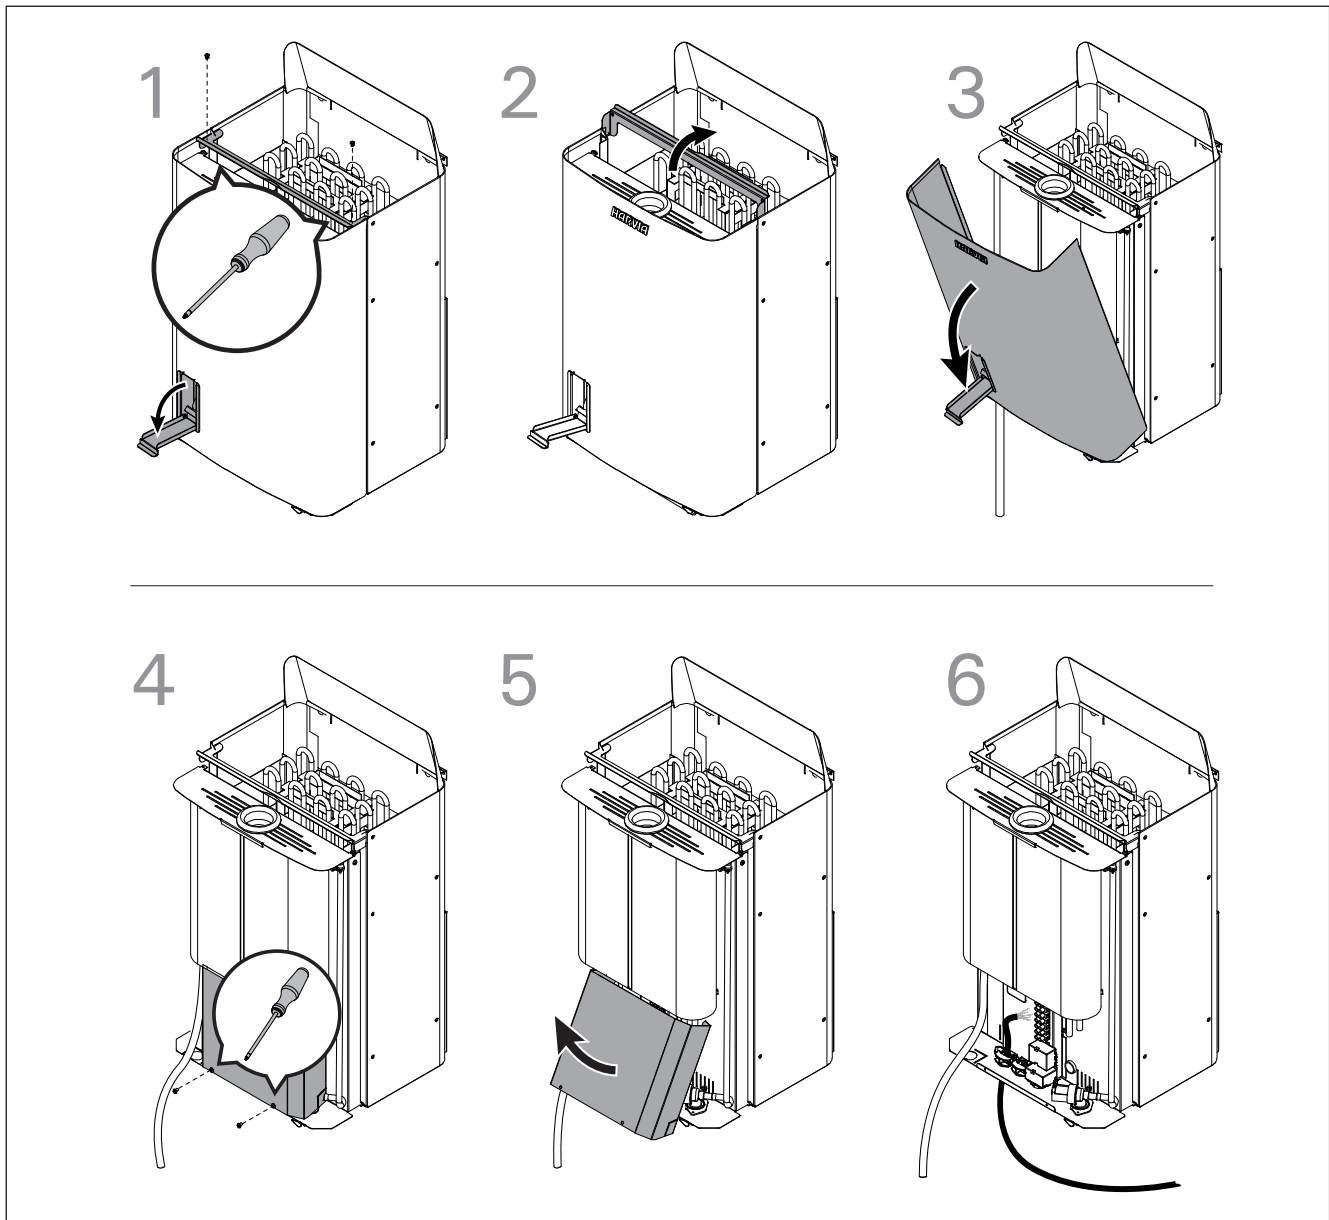

Figure 8.
1. Connect the power cable (fig. 8) to the heater.
- The heater is semi-stationarily connected to the junction box (figure 8: 1) on the sauna wall. The junction box must be splash-proof, and its maximum height from the floor must not exceed 500 mm.
- The connecting cable (figure 8: 2) must be of rubber cable type H07RN-F or its equivalent. **NOTE! Due to thermal embrittlement, the use of PVC-insulated wire as the connecting cable of the heater is forbidden.**